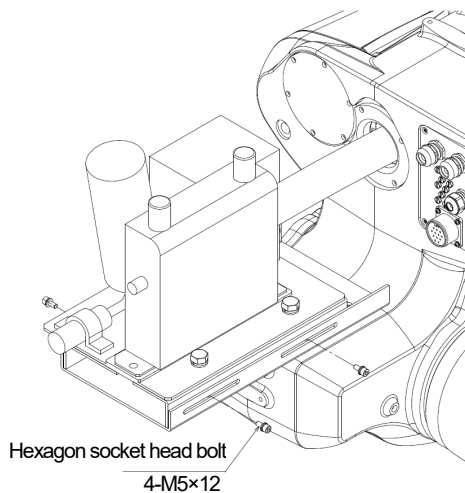

Figure 1.6 Mounting of fixing bracket
3. Referring to Figures 1.6 and 1.7, fix the fixing brackets A and B temporarily using four hexagon socket head bolts (M5×12). For the final adjustment, mount the fixing brackets so that the radius of the all-in-one power cable is about 100 mm when JT5 is set at 135° as shown in Figures 2.4 and 2.9.